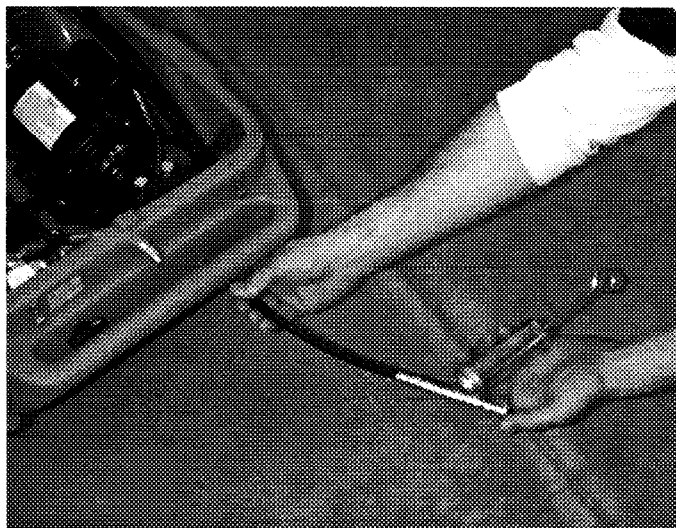

Fig. 15
- c. Insert grease gun through plug hole (front of chassis) and onto grease fitting, pump plunger at most 1 to 2 times. Gun only pumps grease at last 3/4" of plunger travel. Be sure to push plunger all the way down! Do this slowly to allow grease to enter bearing. (Figure 15)